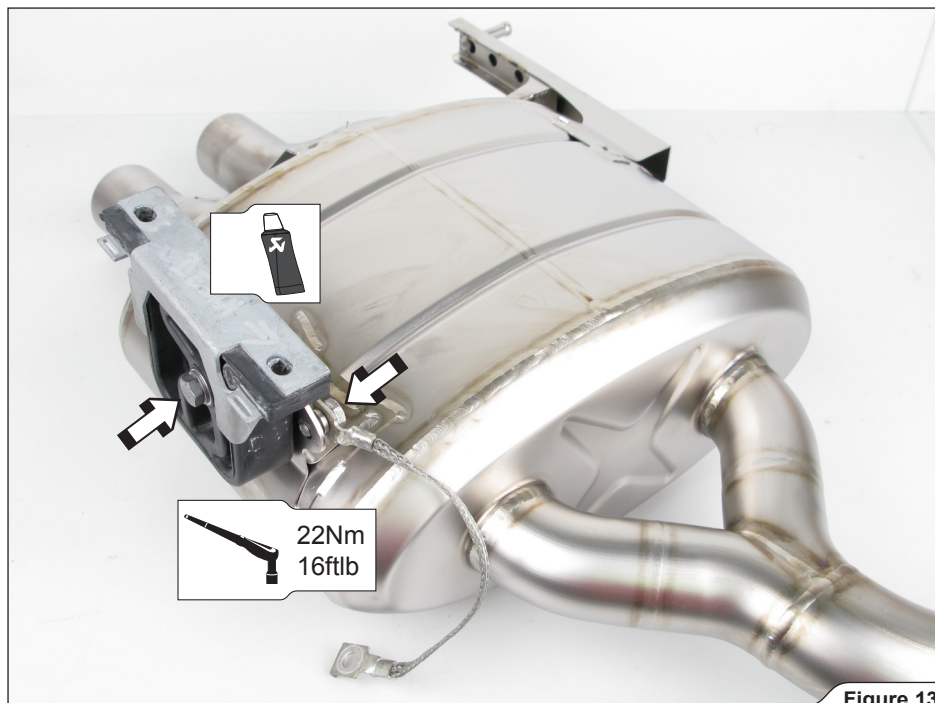

Figure 13
5. Attach the stock muffler brackets (bear in mind, that brackets are not simetrical) and ground wires on both Akrapovič mufflers (**Figure 13**).